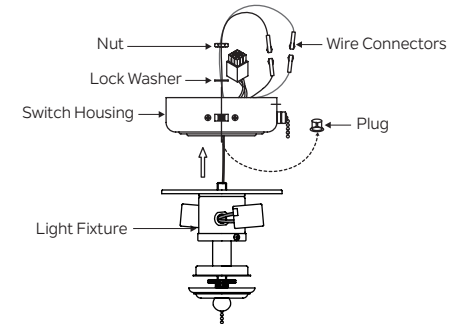

Fig. 17
1. Remove the plastic plug from the center of the switch housing. Attach the light fixture to the switch housing by feeding the light fixture wires (black & white) through the hole in the center of the switch housing, then screw the light fixture stem into the center hole. On the inside of the switch housing, place a lock washer and a nut on the light fixture stem and tighten. (Fig.17)
Attach the wires from the light fixture to the wires inside the switch housing by pushing the polarized connections together. (Fig.17)